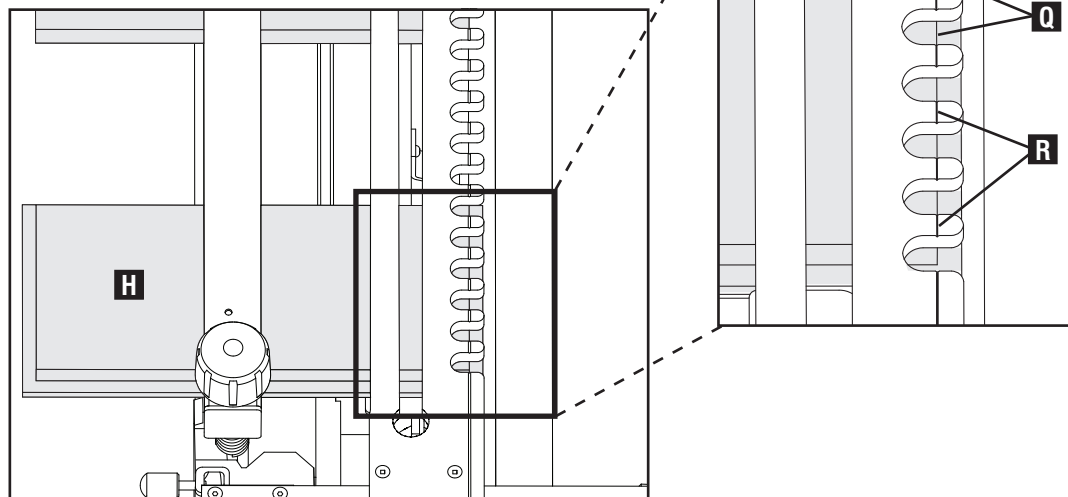

Fig. G12
1. Remove tailboard (B).
2. When positioning the pinboard (H) Fig. G12 with fixed finger template, the rabbeted spacer board is not needed but can be used if desired. Be sure horizontal scrap is in position to the other side.
3. When placing the pinboard (H) in horizontal mount, slide the board forward until the rabbeted edge (Q) is lined up with scribed half-blind alignment line (R) and flush against the left edge.